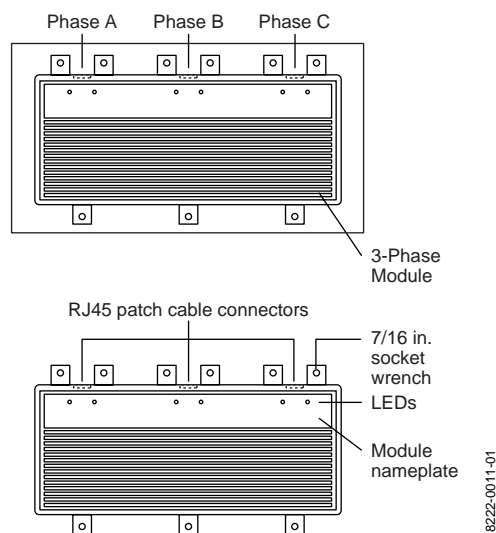

Figure 1: TVSS Device and Modules, Top View
1. Verify that the replacement module has the correct catalog number. The catalog number is found on the nameplate of each existing and replacement module (see Figure 1) and on the TVSS device nameplate. Use Table 1 to determine the correct replacement catalog number based on the existing IBA TVSS system voltage and peak surge current rating.